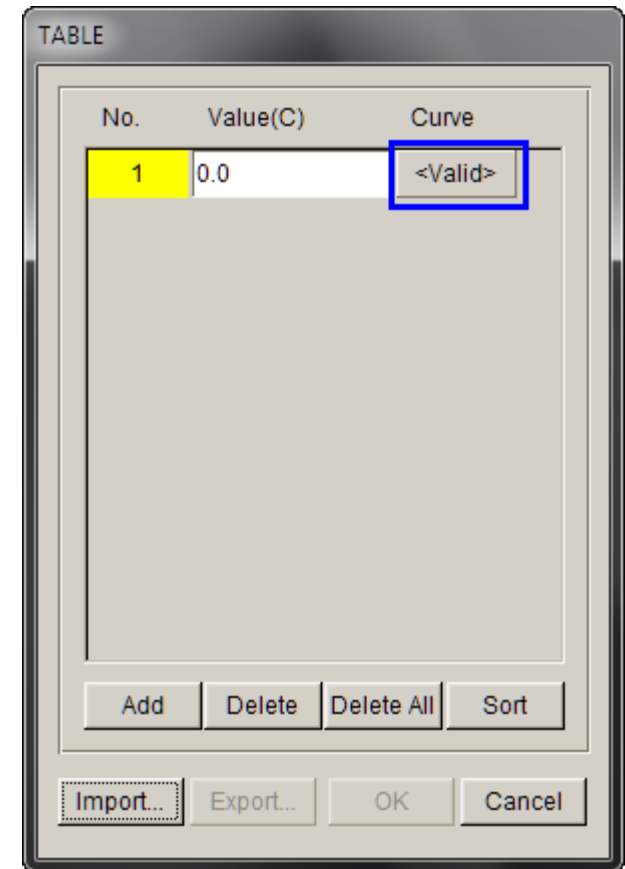

Figure 24
8. Then Click **OK** to accept the result. The first curve definition is displayed with **valid**. See Figure 24.